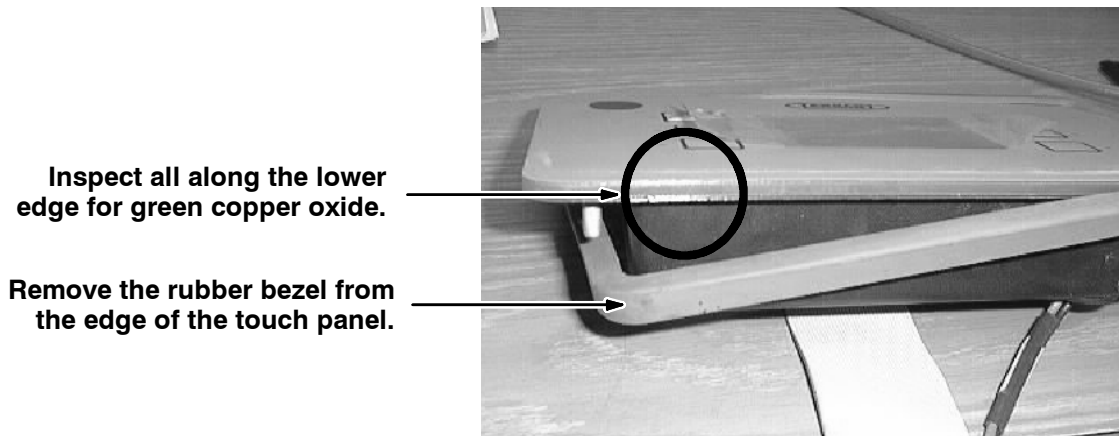
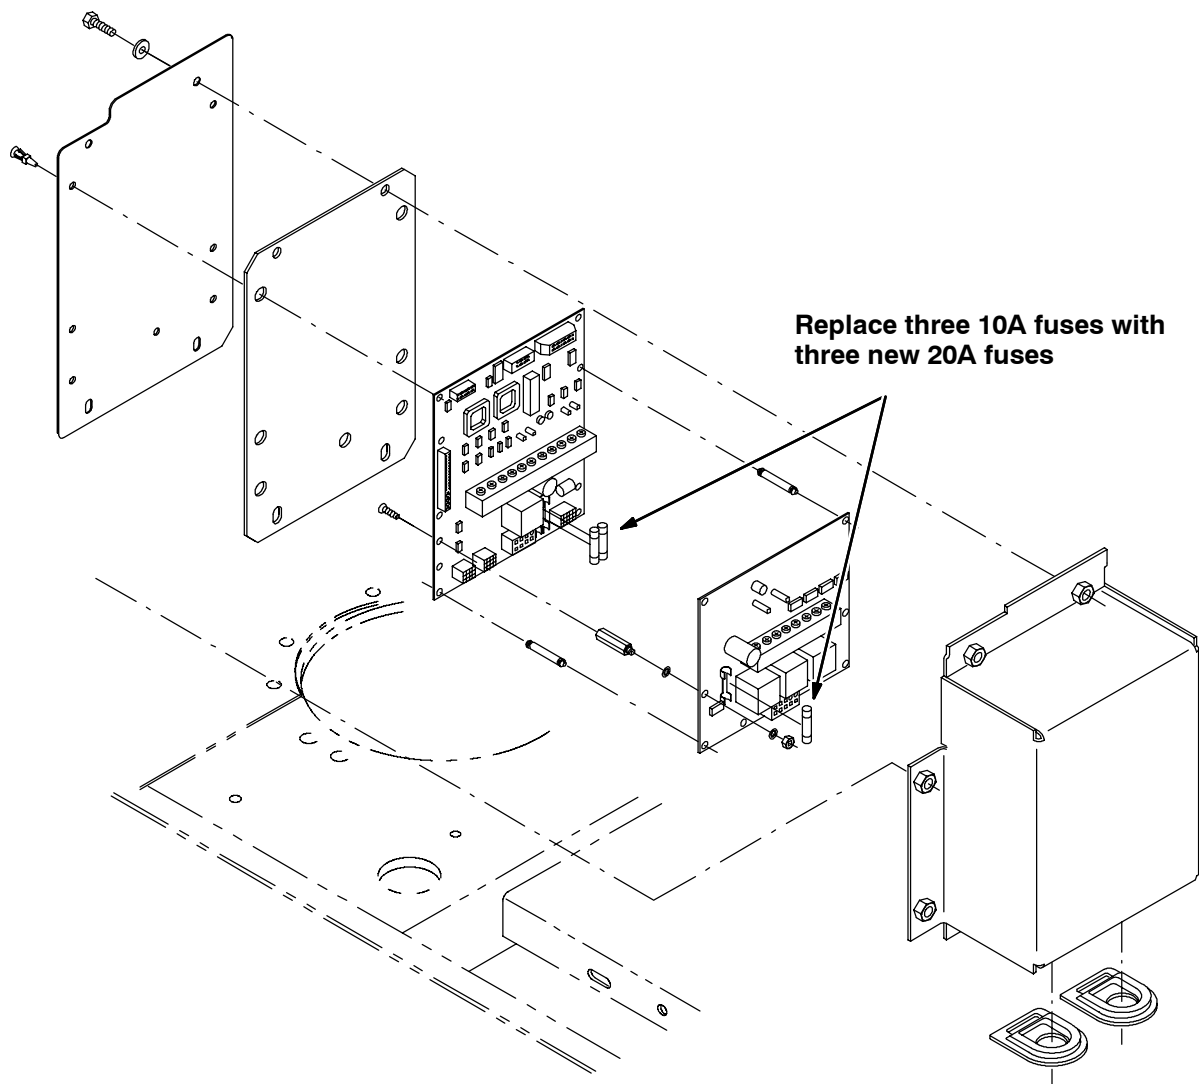
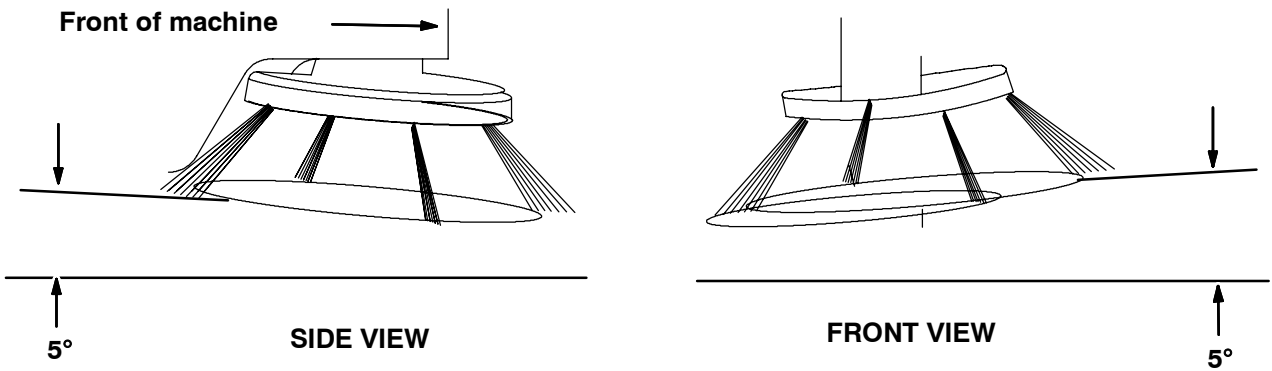
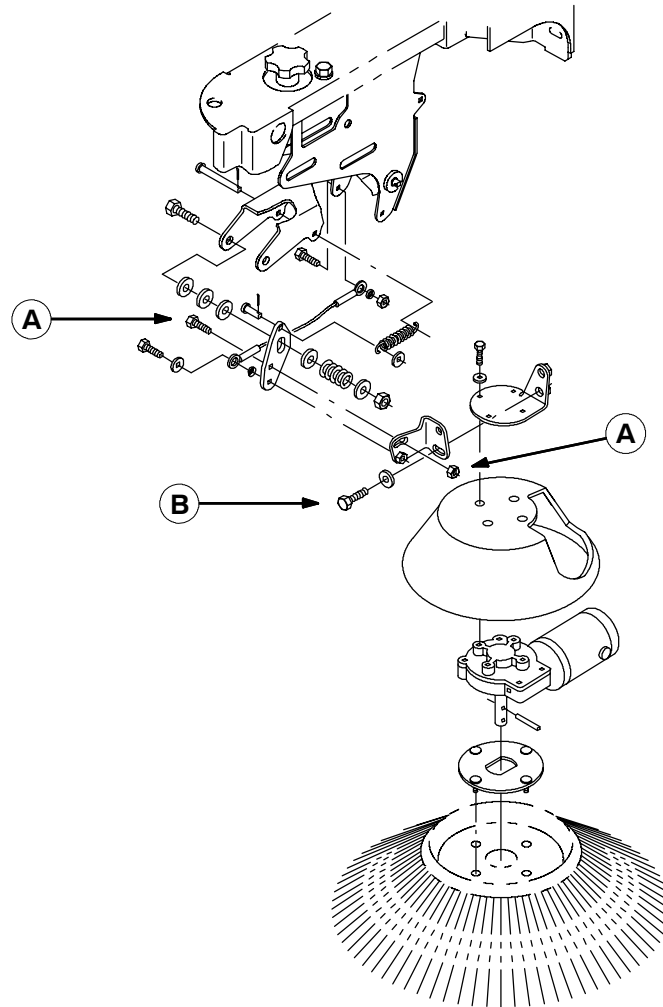

FIG. 1 - Control Panel Inspection
FIG. 4 - Circuit Board Assembly
FIG. 5 - Recommended Side Brush Angle Settings
FIG. 6 - Side Brush Adjustment Screws
(Refer to Fig. 1 through Fig. 6)
3. Remove the surrounding rubber bezel. (Refer to FIG. 1)
4. Inspect the lower outside perimeter of the touch panel assembly for green copper oxide formations. Refer to Fig. 1.
12. Open the circuit board panel next to the motor and set the cover mounting hardware aside. Refer to Fig. 4.
15. Replace the three 10A fuses in the two circuit boards with three new slo-blo 20A fuses. Refer to Fig. 4.
(Refer to Fig. 4 and Fig. 5)
3. Observe the side brush from the side of the machine. The side brush should be pointing down at a 5° angle, towards the front of the machine. Refer to Fig. 5 and Fig. 6.
5. Loosen side brush adjustment screw (A) if the side brush needs front/back adjustment. Tighten side brush adjustment screw (A) after readjusting the front/back brush angle. Refer to Fig. 5 and Fig. 6.
7. Observe the side brush from the front of the machine. The side brush should be pointing down at a 5° angle, towards the outside of the machine. Refer to Fig. 5 and Fig. 6.
9. Loosen side brush adjustment screw (B) if the side brush needs left/right adjustment. Tighten the side brush adjustment screw (B) after readjusting the left/right brush angle. Refer to Fig. 5 and Fig. 6.